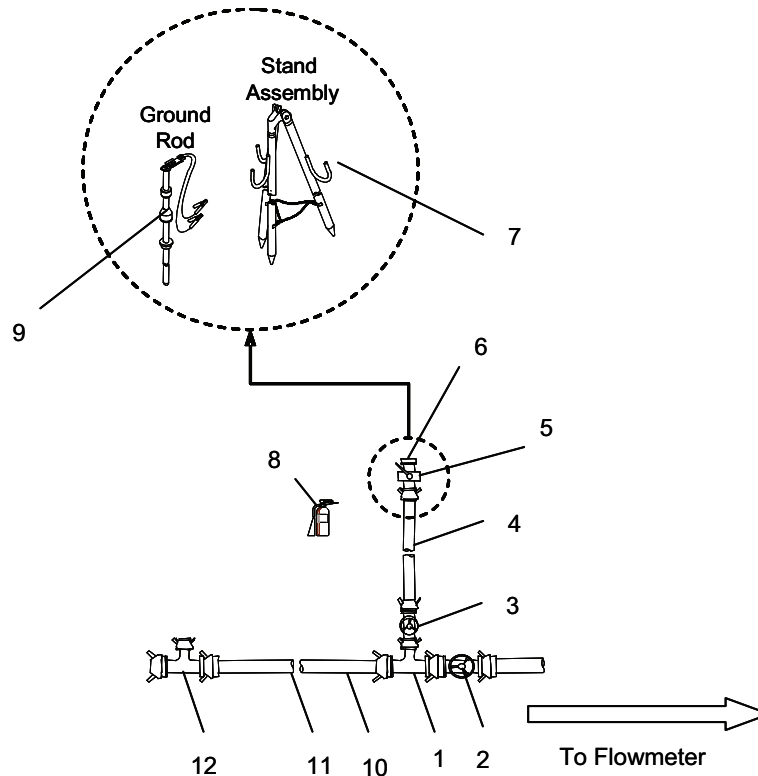

Figure 19. Installation of Issue Points with D-1 Nozzles.
2. Connect the 6M x 6F x 4M tee assembly (Figure 19, Item 1) to the 6 in. gate valve (Figure 19, Item 2).
4. Connect the 4 in. gate valve (Figure 19, Item 3) to the 6M x 6F x 4M tee assembly (Figure 19, Item 1) pointing towards the issue point.
6. Connect the female end of the 4 in. x 25 ft. discharge hose (Figure 19, Item 4) to 4 in. gate valve (Figure 19, Item 3).
8. Connect the butterfly valve (Figure 19, Item 5) to the section of 4 in. x 25 ft. discharge hose (Figure 19, Item 4).
10. Connect the D-1 nozzle (Figure 19, Item 6) to the butterfly valve (Figure 19, Item 5).
14. Position the stand assembly (Figure 19, Item 7) and fire extinguisher (Figure 19, Item 8) adjacent to the butterfly valve (Figure 19, Item 5).
15. Install the ground rod (Figure 19, Item 9) adjacent to the stand assembly (Figure 19, Item 7) per FM 10-67-1.
18. Connect the 6 in. x 25 ft. discharge hose (Figure 19, Item 10) to the 6M x 6F x 4M tee assembly (Figure 19, Item 1).
19. Connect the 6 in. x 50 ft. discharge hose (Figure 19, Item 11) to the 6 in. x 25 ft. discharge hose (Figure 19, Item 10).
21. Connect the 6M x 6F x 4M (Figure 19, Item 12) to the end of the 6 in. X 50 ft. discharge hose (Figure 19, Item 11).